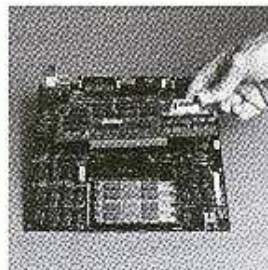

Figure 2-10
- b. Align the host connector card over the main logic board as shown on Figure 2-10.